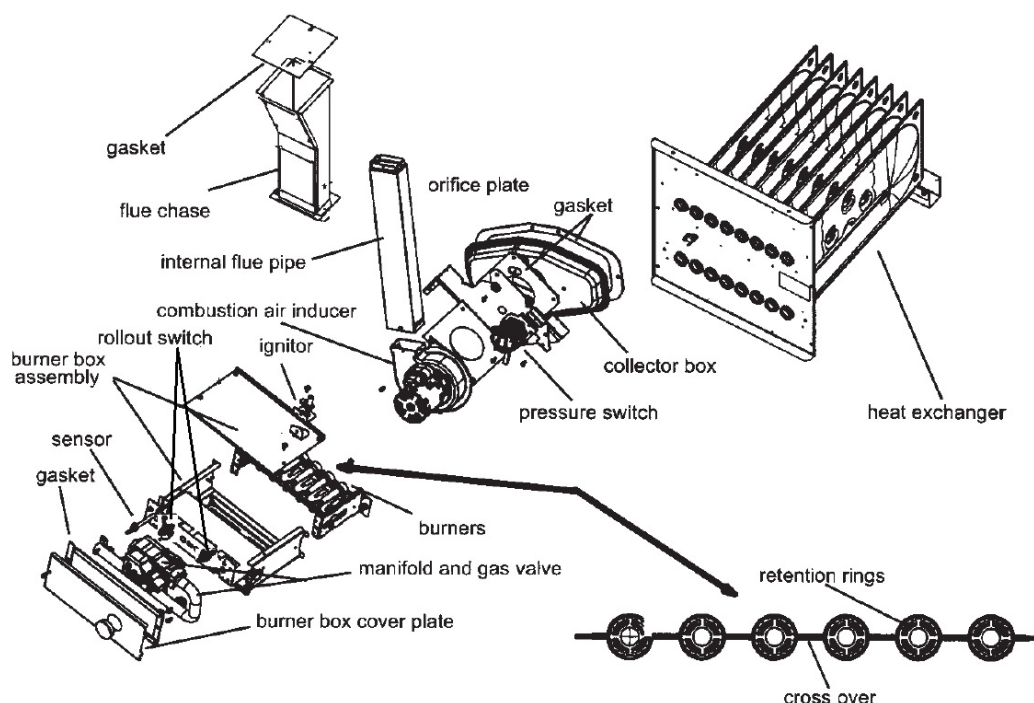

Figure 41. Burner, Combustion Air Inducer Assembly & Heat Exchanger Removal
11. To clean burners, run a vacuum cleaner with a soft brush attachment over the face of burners. Visually inspect inside the burners and crossovers for any blockage caused by foreign matter. Remove any blockage. Figure 41 shows burner detail.